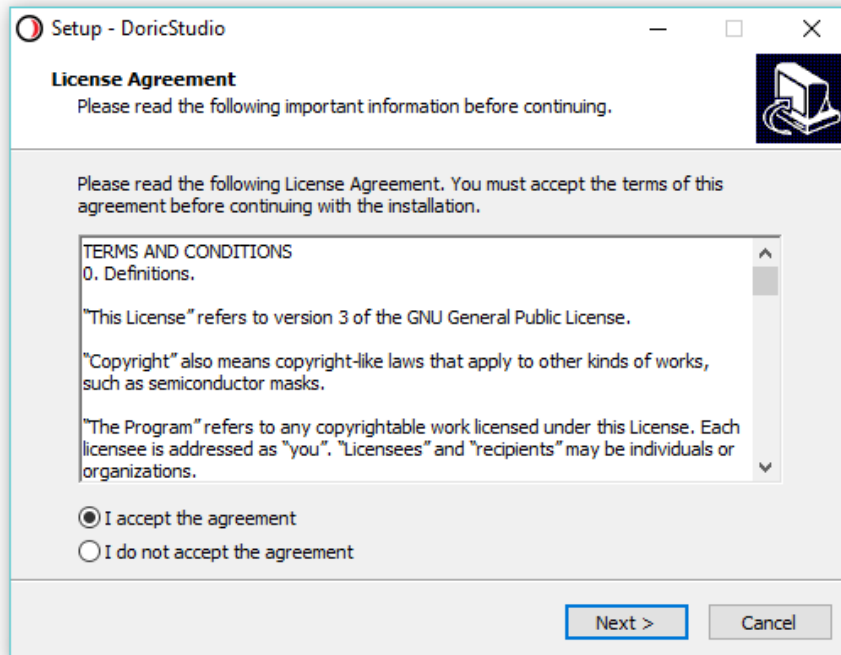

Figure 3.1: Doric Neuroscience Studio License Agreement
3. In the license agreement window (Fig. 3.1), accept the agreement and click **Next** to continue the process.